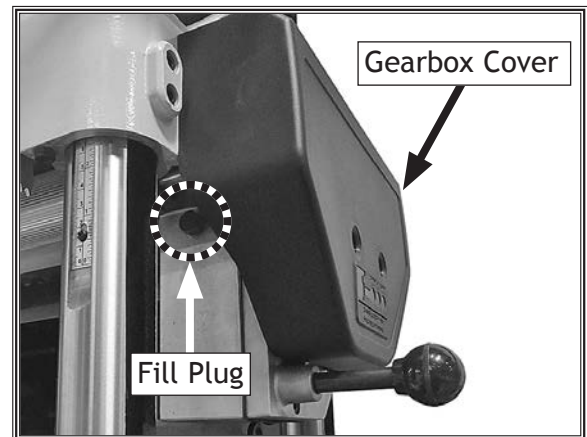

Figure 13. Location of gearbox fill plug.
Note: For easier access to the fill plug, remove the gearbox cover (see **Figure 13**).
1. Remove gearbox fill plug (see **Figure 13**).